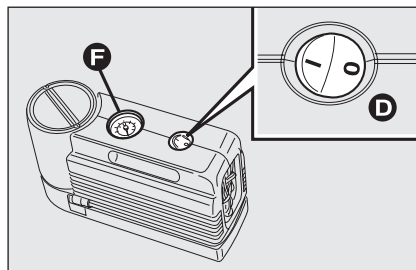
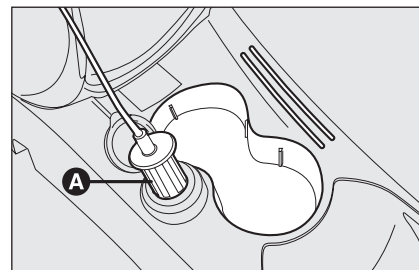

fig. 5
fig. 6
- ☐ make sure the compressor switch **D-fig. 5** is set to 0 (off), start the engine and fit plug **A-fig. 6** into the nearest current outlet and then turn on the compressor by setting switch **D-fig. 5** to **I** (on). Inflate the tyre to the pressure specified in paragraph "Inflation pressure" in section "Technical Specifications". Check tyre pressure on gauge **F-fig. 5** with compressor off to obtain precise reading;